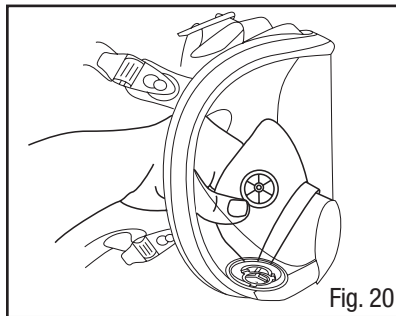

Fig. 20
1. Remove the nose cup assembly by grasping the nose cup below the inhalation valve and gently pulling up and away from lens assembly (Fig. 20).